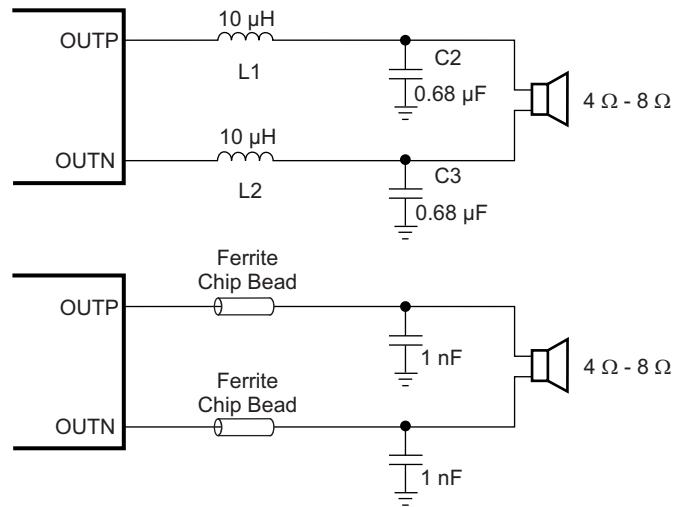

图 33. TPA31xxD2 Output Filters
- Output filter — The ferrite EMI filter (see 图 33) should be placed as close to the output terminals as possible for the best EMI performance. The LC filter should be placed close to the outputs. The capacitors used in both the ferrite and LC filters should be grounded.